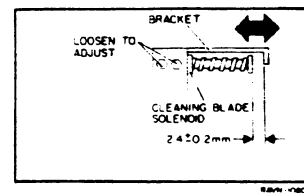

Figure 2. Adjustment of Body of Solenoid
4. ADJUST BODY OF SOLENOID (FIGURE 2).